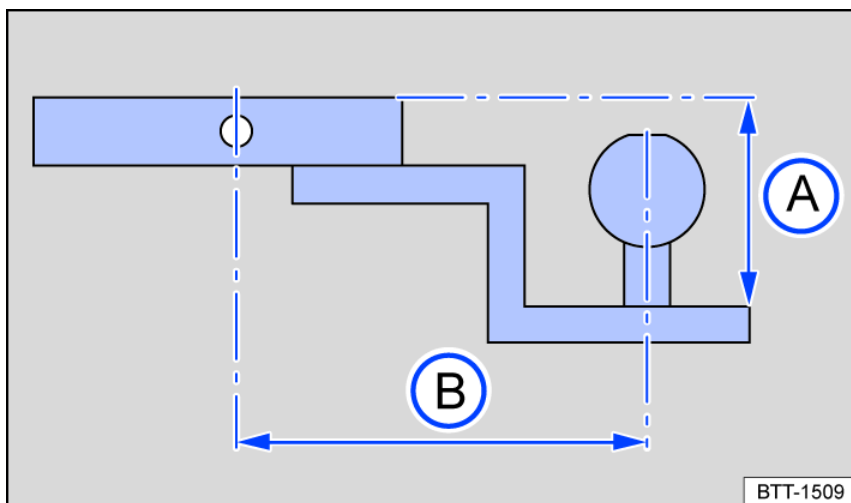

Fig. 164 Dimensions of the ball mount holder and receptacle.
The mount requires a special shape and size of ball mount holder and ball mount. This affects both the suspended height of the ball coupling fig. 164 A and the distance between the socket pin and the ball coupling fig. 164 B.
- The suspended height fig. 164 A from the top of the ball mount to the top of the neck must not exceed 50.8 mm (2 inches).
The distance between the socket pin and the ball mount fig. 164 B must not exceed 209.55 mm (8 1/4 inches) from the middle of the ball mount to the middle of the eye of the pin.